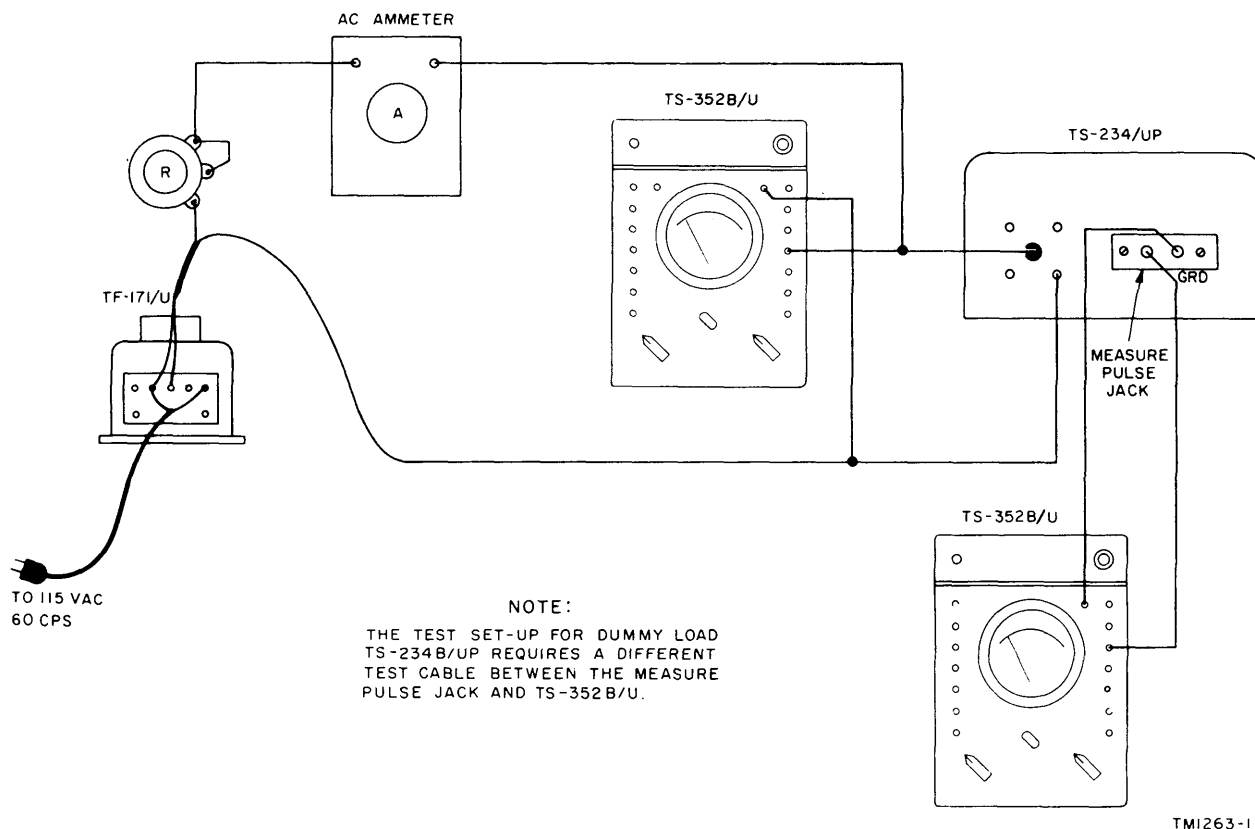

Figure 4.1-1. Load test.
d. Set up the equipment for tests as shown in figure 4.1-1.
- a. Set up the equipment as shown in figure 4.1-1.